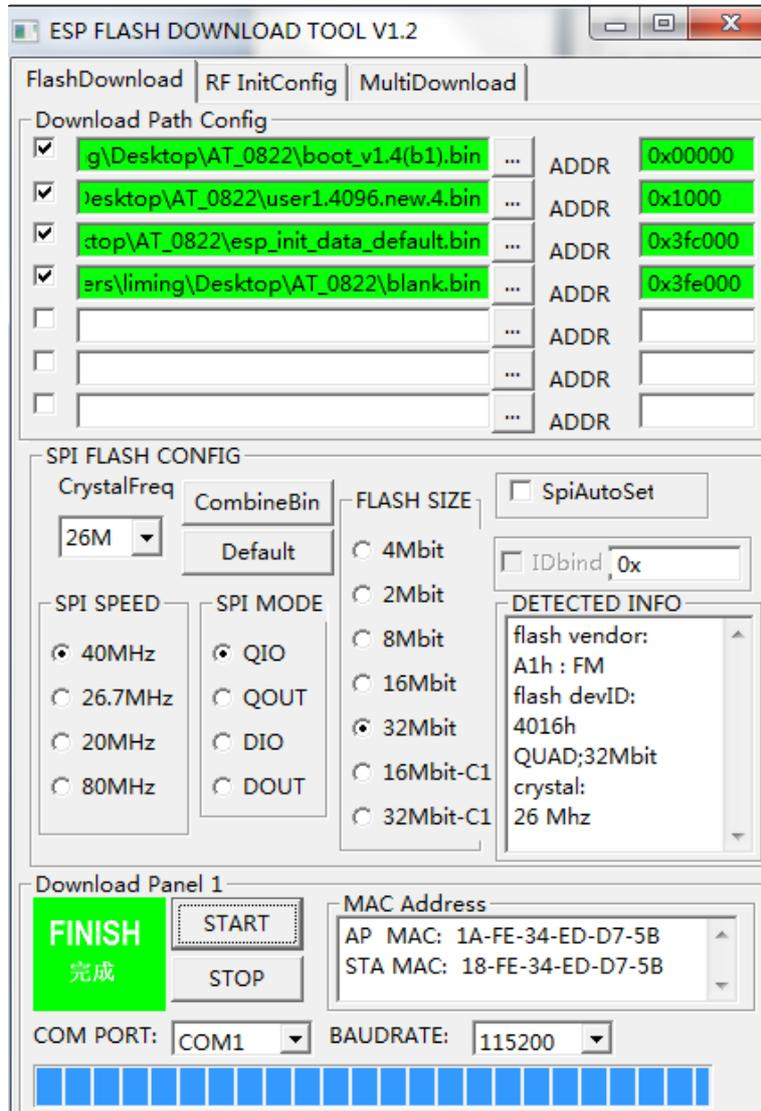

Figure 3-7 Program Download Complete
4. In program software, splats change from "downloading" to "complete" means the program download is complete, please refer to figure 3-7: